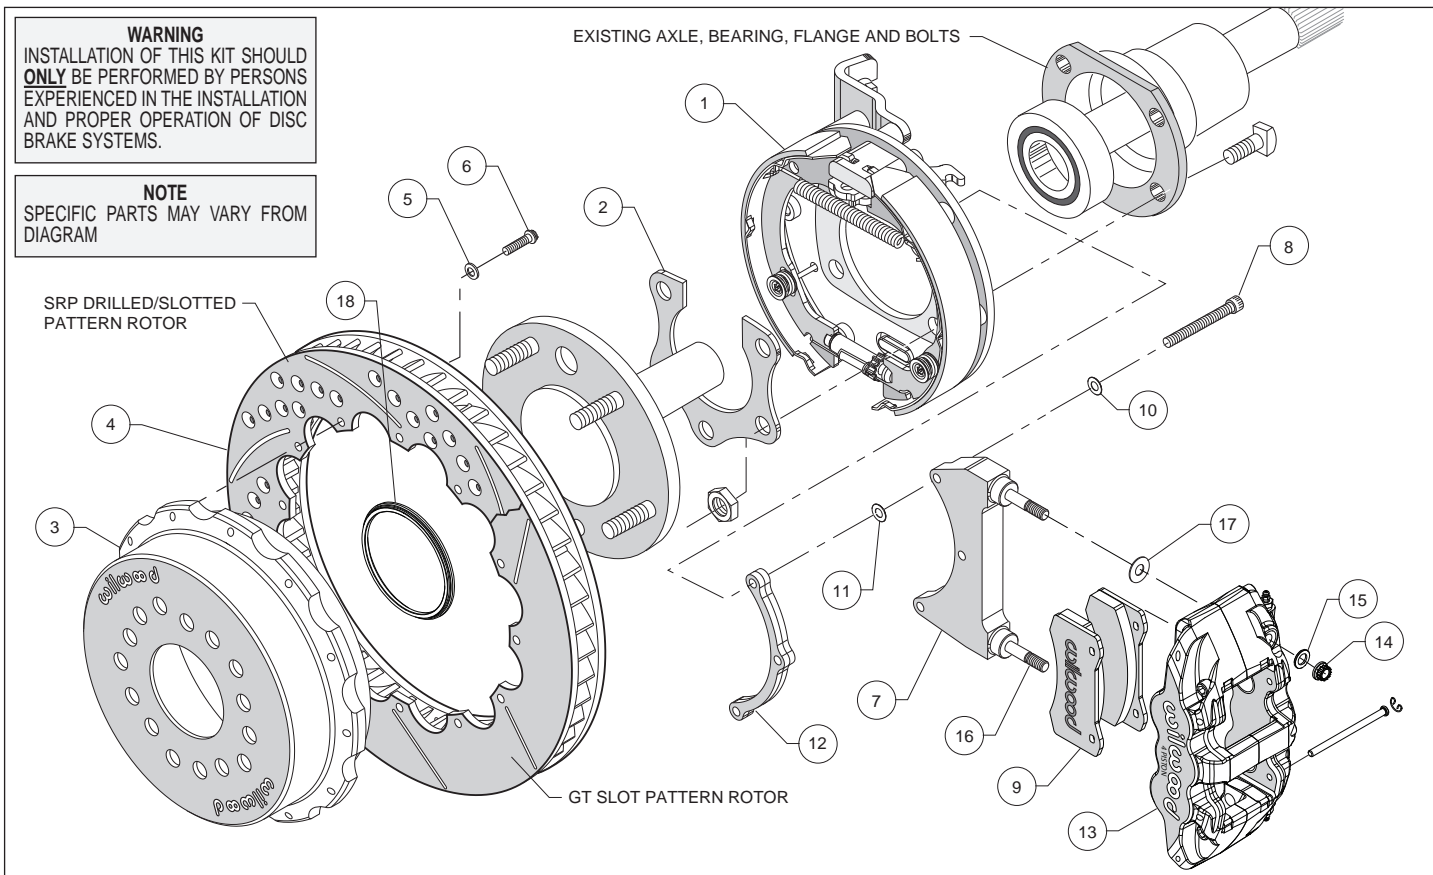

Figure 3. Typical Installation Configuration
- Axle center register diameter is 2.80", Figure 3. This kit uses Wilwood's removable center register adapters. Rotors can either be centered on the axle register, i.e. *register-centric* or centered on the wheel studs, i.e. *stud-centric*. Due to variations in wheel stud final diameters, *register-centric* centering can be a more accurate method of centering the rotor to the axle. Wilwood offers various diameter adapters for purchase in addition to the ones supplied in this kit, see Table 1.
- Determine that the appropriate snap ring style green bearing has been installed on the axle, as shown in Figure 2. Temporarily remove snap ring from bearing. Orient the bracket assembly (1) as shown in Figure 3 and slide it onto the axle and over the bearing. Reinstall snap ring on bearing. Insert the axle and bracket into the axle housing. Ensure that the bracket assembly backing plate fits flush against the axle housing flange.
- Install the bearing retainer (2) with the opening pointing upward and the bearing relief step facing inward (toward the bearing), as shown in Figures 3 and 6. Secure retainer and bracket assembly to the axle housing flange using the Original Equipment Manufacturer (OEM) bolts and nuts, Figure 3. Apply red *Loctite*® 271 to the OEM bolt threads and torque to OEM specifications.